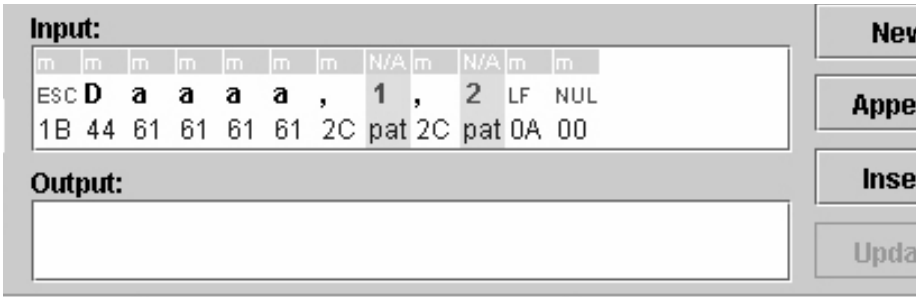

Figure 151. Entering the Input String
25. Press the right arrow key, then the down arrow key and type 0A00 (for LF and NUL). See Figure 151.